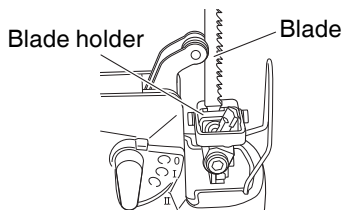

Fig. 3
- Confirm the protrusions of blade inserted to the blade holder surely. (Fig. 3)